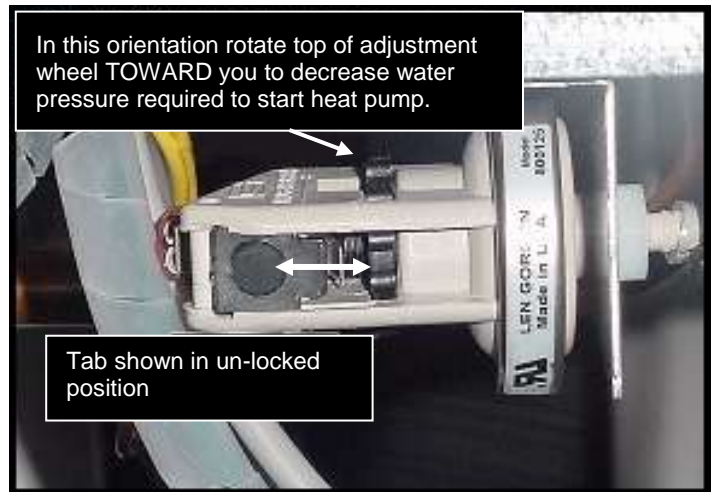

Figure 12
- Identify type of switch to adjust (“Len Gordon” or “TecMark”). To determine which brand pressure switch is installed compare water pressure switch in heat see to Figure 12 and Figure 13. Follow the adjustment procedure for the appropriate switch.
- 1) Locate black rectangular plastic tab, located on forward-facing side of the switch. See Figure 12. The black rectangle is a wheel lock tab.